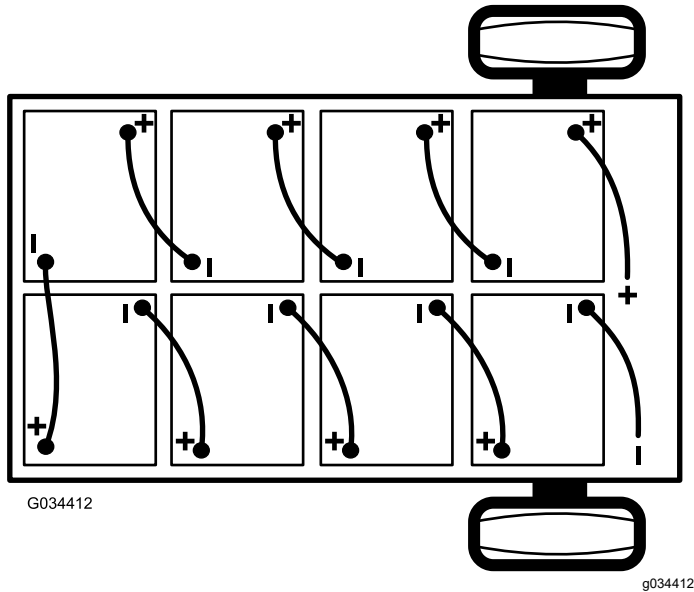

Figure 39
2. Disconnect the main negative-battery cable (black) that connects the bank of batteries to the ground point of the machine (Figure 39).
3. Disconnect the main positive-battery cable (red) that connects the bank of batteries to the main contactor of the machine (Figure 39).
Note: Pay attention to the battery polarity when installing the new batteries (Figure 39).
6. Connect the batteries together as shown in Figure 39 with the battery-interconnect cables that you removed in step 1.
2. Connect the main positive-battery cable (red) between the bank of batteries and the machine (Figure 39).
3. Connect the main negative-battery cable (black) between the bank of batteries and the machine (Figure 39).